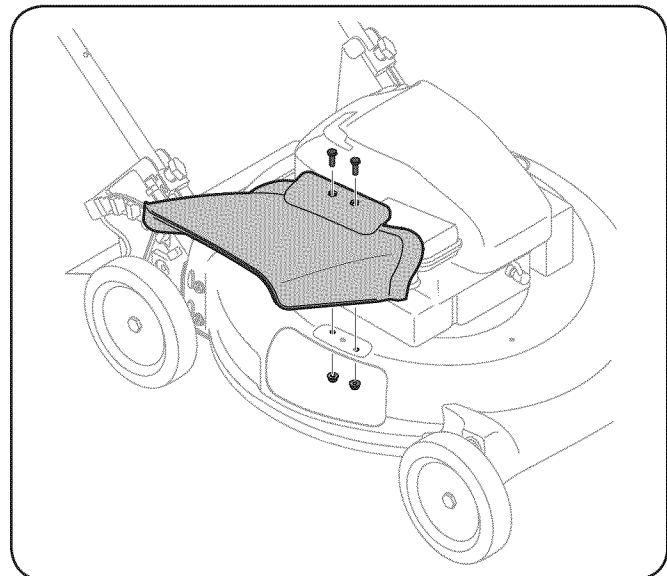

**Figure 3-6**
- Using bolts and washers from Group 1 of the hardware pack, secure the rear wheels to the deck as shown in Figure 3-6. The washer should be installed with the crown side facing the wheel.